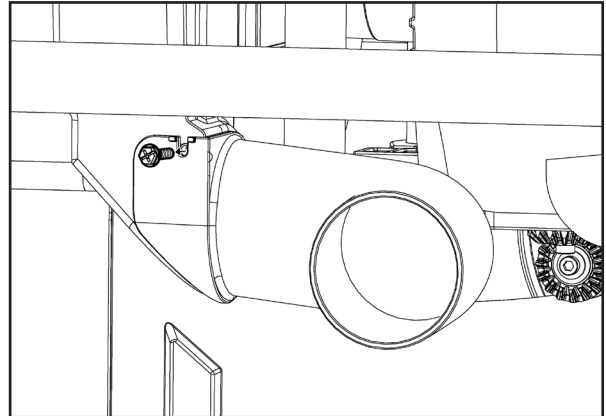

Figure 64
1. Remove the hex screw located in the back of the dust chute, using the supplied 3/16 inch Two-Way Allen Wrench (L Shape) . See Figure 64.